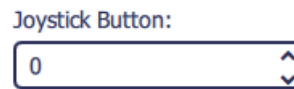

Figure 59 - Joystick Button Box
- a. Record the **Joystick Button** value of the current (first) button (Figure 59).
- Record the **Joystick Button** value of the current (first) dial (Figure 59).